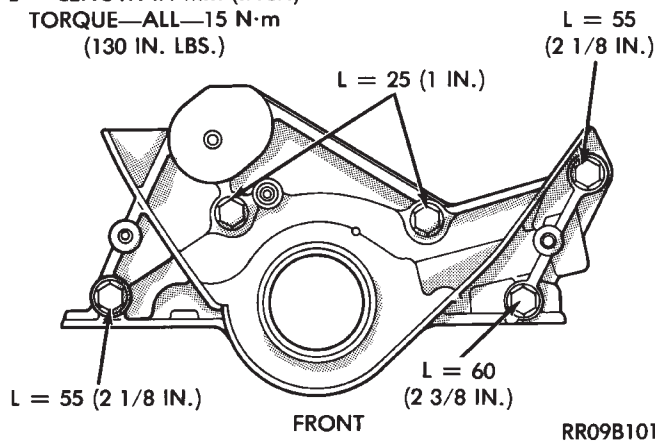
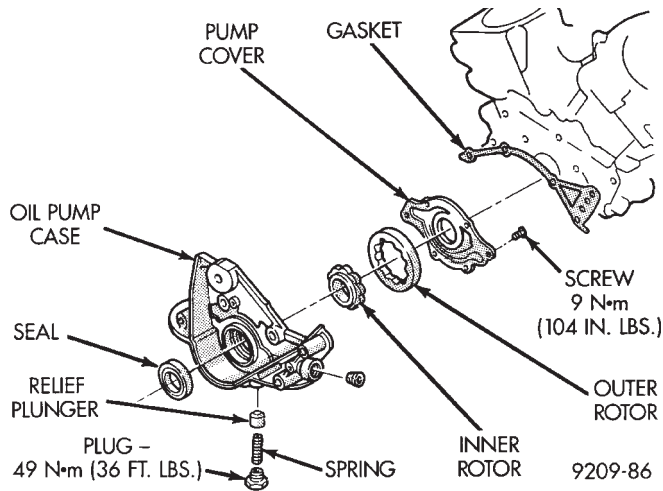

Fig. 6 Oil Pump Assembly
Fig. 7 Oil Pump Components
Remove 5 bolts that attach oil pump to block (Fig. 6).
- (1) Clean block and pump surfaces.
- (2) Install new gasket (Fig. 7) make sure correct length bolts are used (Fig. 6).
- (3) Torque bolts to 13 N·m (120 in. lbs.).